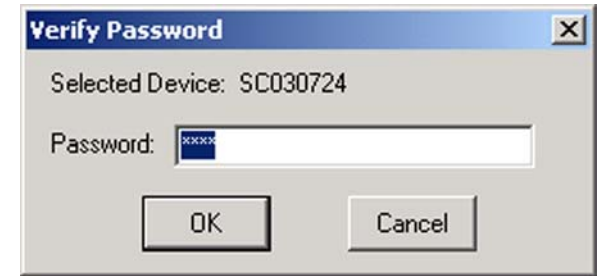

Figure 8-14: Verify Password
- **Configuration.** You may configure the PrintServer with this option. If you click this option, a Verify Password screen will appear, as shown in Figure 8-14. Make sure that you enter the password in the field before you click OK or an Incorrect Password message will appear. If the message appears, click OK, enter the correct password in the field, and click OK again.